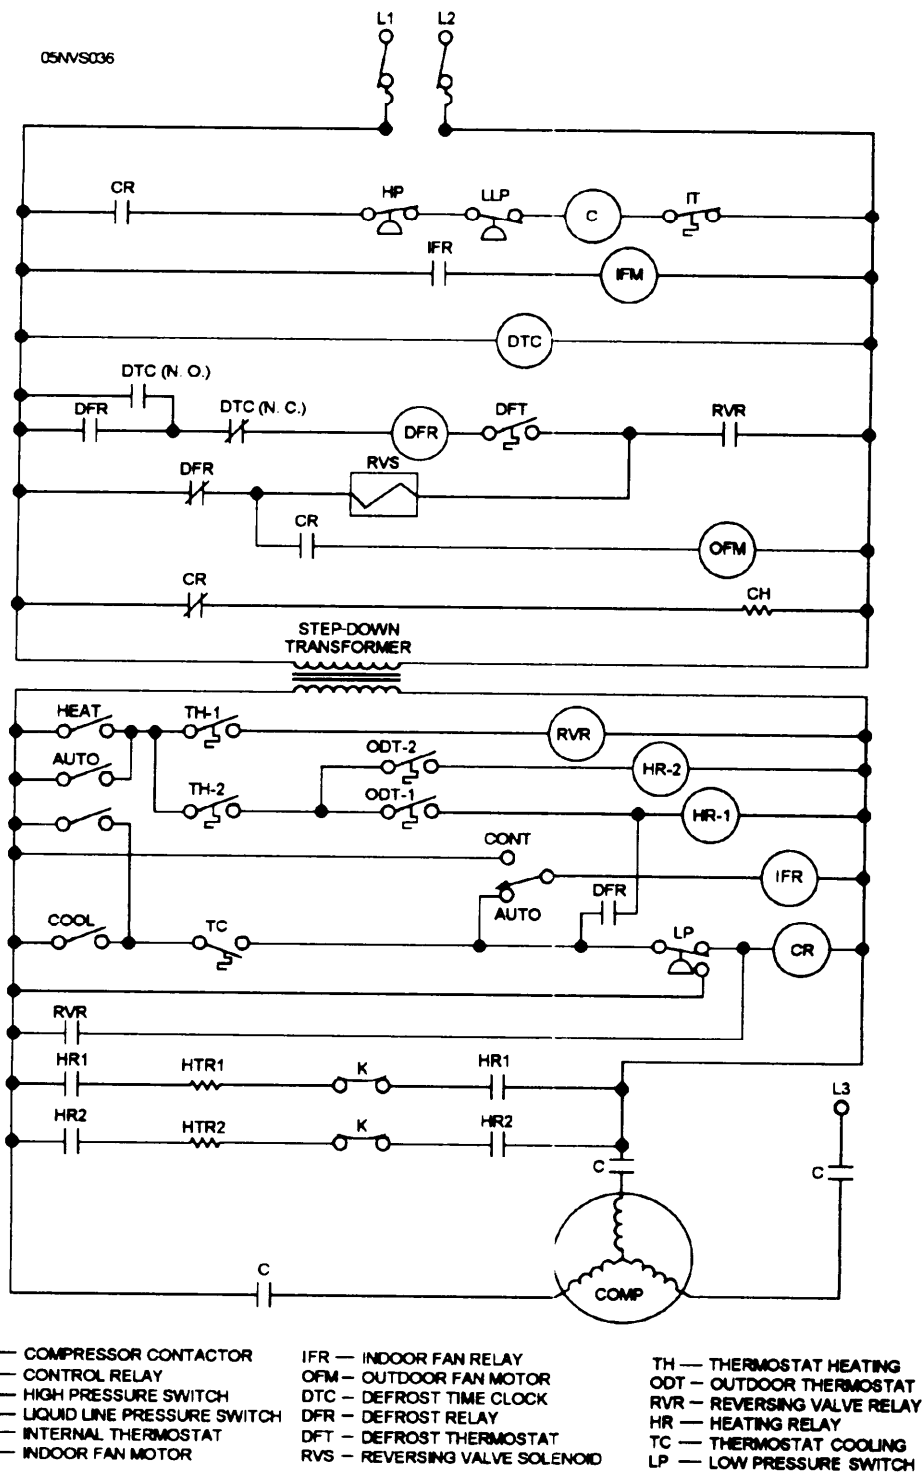

Figure 14-29(A).—Heat pump schematic.
All loads have some type of control so they can be turned on, off, or regulated. These controls are located in a control circuit. The circuit is made up of controls and paths wiring. Controls and control circuits consume no electrical energy; they simply provide a path for electrical energy to flow, thus indirectly controlling the operation of various types of loads. Figure 14-29(A) shows an electrical schematic wiring diagram of a heat pump. At first glance the diagram appears complex, but after studying the diagram briefly and looking at one circuit at
a time, the diagram becomes easy to follow and understand. An example is as follows: Look at the first circuit in figure 14-29(A). The circuit contains a control relay contact (CR), high-pressure switch (HP), liquid line pressure switch (LLP), compressor contactor (C), and an internal thermostat (IT). This is a complete circuit. The CR is simply a set of contacts and falls in the category of a path; the contacts are either open or closed. The HP and LLP are both pressure switches and are controls in this circuit; the pressure switches are either open or closed. The C is the compressor contactor. Actually this is a magnetic coil located within a contactor that simply closes all of the contacts in the diagram that are labeled C. The IT (internal thermostat) is located inside the compressor and opens when there is a temperature rise. The only load in this circuit is the compressor contactor because it is a current consuming device. Now, look at figure 14-29(A) and see if you can find the load in the second circuit. The load is the indoor fan motor (IFM) because it is a current consuming device. The IFR contact only provides a path for the current to energize the indoor fan motor.
To troubleshoot an inoperative or improperly operating unit electrically, you must be able to use a process of elimination systematically and use a multimeter effectively. Remembering and understanding a few simple rules will enable you to use a multimeter to locate a faulty electrical component or control. The first circuit in figure 14-29(A) is used as an insert to illustrate the different meter readings you will encounter when troubleshooting an electrical system. Refer to the insert next to the applicable troubleshooting procedure.